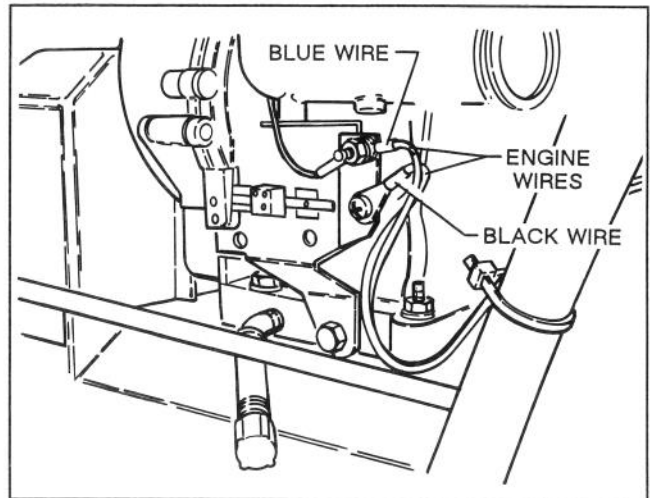

Figure 20
38. Route black and blue wires from switch harness down left handle and secure to appropriate connections on left side of engine where wires were previously removed (Fig.20).